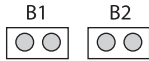

Fig. No 26
5. Set the jumper on SET and MODE pins. See Fig. No. 26 for correct jumper position.